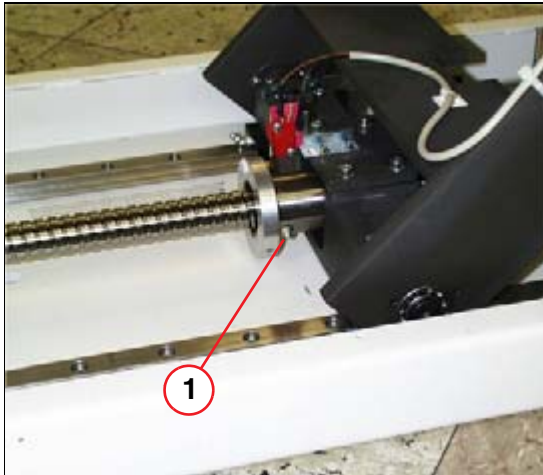

Fig. 5: Spindle: location of grease nipple
- Place the connector of the lubricant gun on the lubrication fitting of the spindle nut (1/Fig. 5 / p. 27).